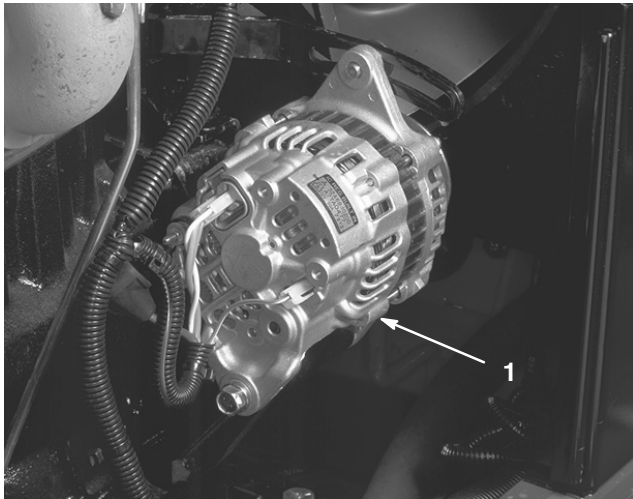

Figure 47
C. Loosen the 3 bolts securing alternator to plate and mounting bracket (Fig. 47). Rotate alternator away from engine to increase tension and tighten bolts. Check belt tension after adjustment and re-adjust, if necessary.